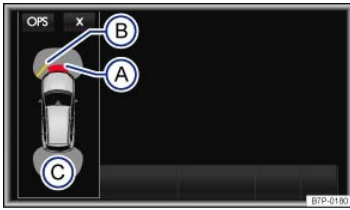
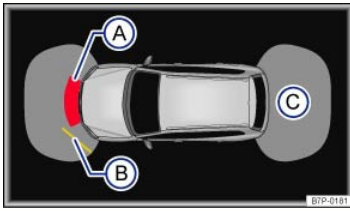

Fig. 170 OPS screen display: Small-screen display.
Fig. 171 OPS screen display: Full-screen display.
OR: Tap the X function key $\Rightarrow$ Fig. 170.
OR: Tap the OPS function key $\Rightarrow$ Fig. 170.
**Key to ⇒ Fig. 170 and ⇒ Fig. 171 :**
Manually deactivate the OPS small-screen display:	Tap the X function key ⇒ <a href="#">Fig. 170</a> .
Automatically switch on the display:	OR: Tap the OPS function key ⇒ <a href="#">Fig. 170</a> .
In front of the vehicle, the area in which obstacles are detected extends about 48 inches (120 cm) straight ahead and up to 24 inches (60 cm) to either side. Behind the vehicle, the scanned area extends about 5 ft. 4 inches (160 cm) to the rear and about 2 ft. (60 cm) to either side ⇒ Fig. 170© and ⇒ Fig. 171©.
The display shows the scanned area in several segments. The closer the vehicle gets to the obstacle, the closer the segment advances to the displayed vehicle ⇒ Fig. 170© and ⇒ Fig. 171©.